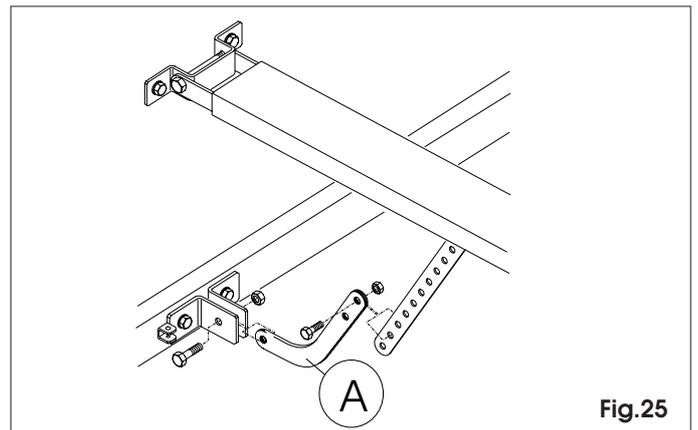

Fig.25
7.25 For sectional doors that require it, fit the arm shown in figure 25 ref. A on the attachment and carry on from point 7.18.